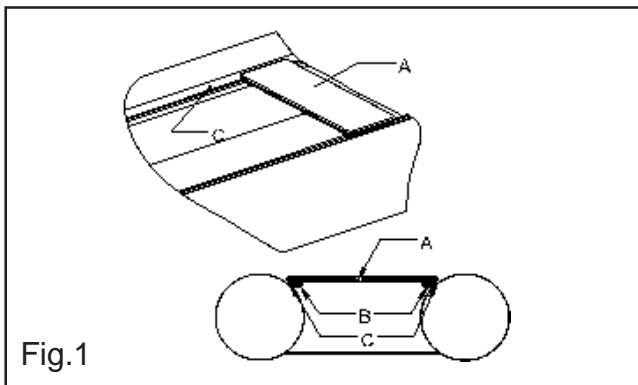

Fig.1
- fix the holders (B) of the wooden seat (A), located on the bottom surface of the seat on the guides (C),
- slide the wooden seats along the guides, so that you can comfortably operate the boat (see Fig.1).